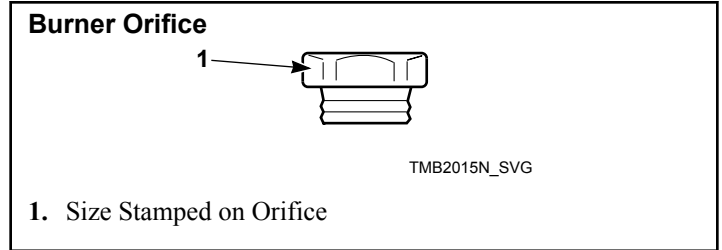

Figure 9
3. Install the new, correct burner orifice(s). Refer to *Figure 9* and *Table 1*. Torque each to 9 – 10 Nm.
4. Reinstall spud holder assembly to gas valve, making certain burner orifice(s) are in line with burner tube opening. Refer to *Figure 9*.